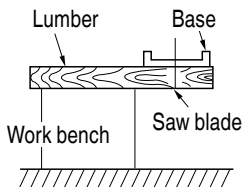

Fig. 11
6. Prepare a wooden work bench (Fig. 11)